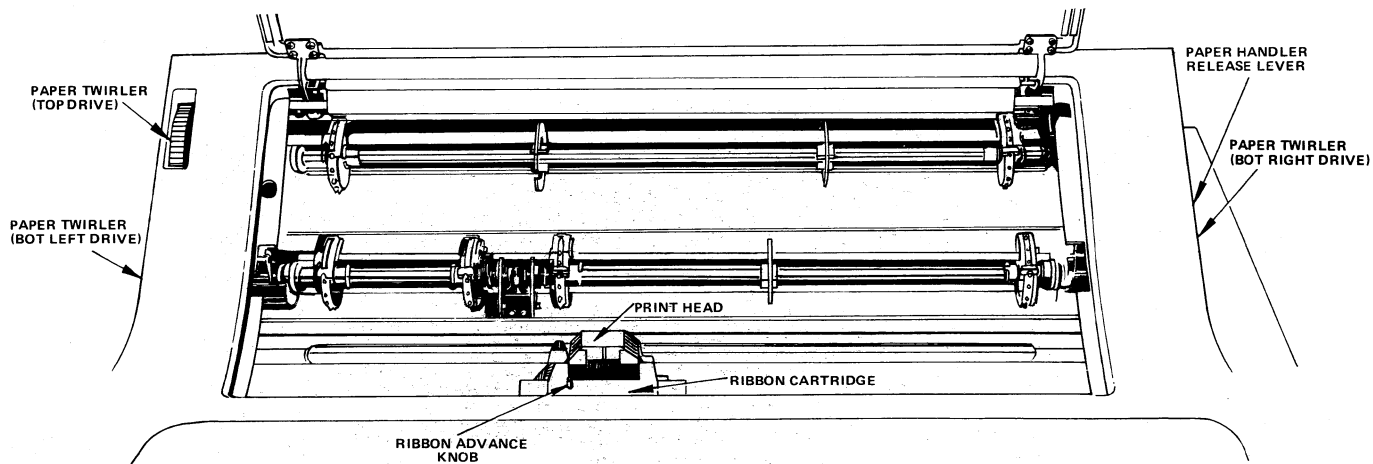
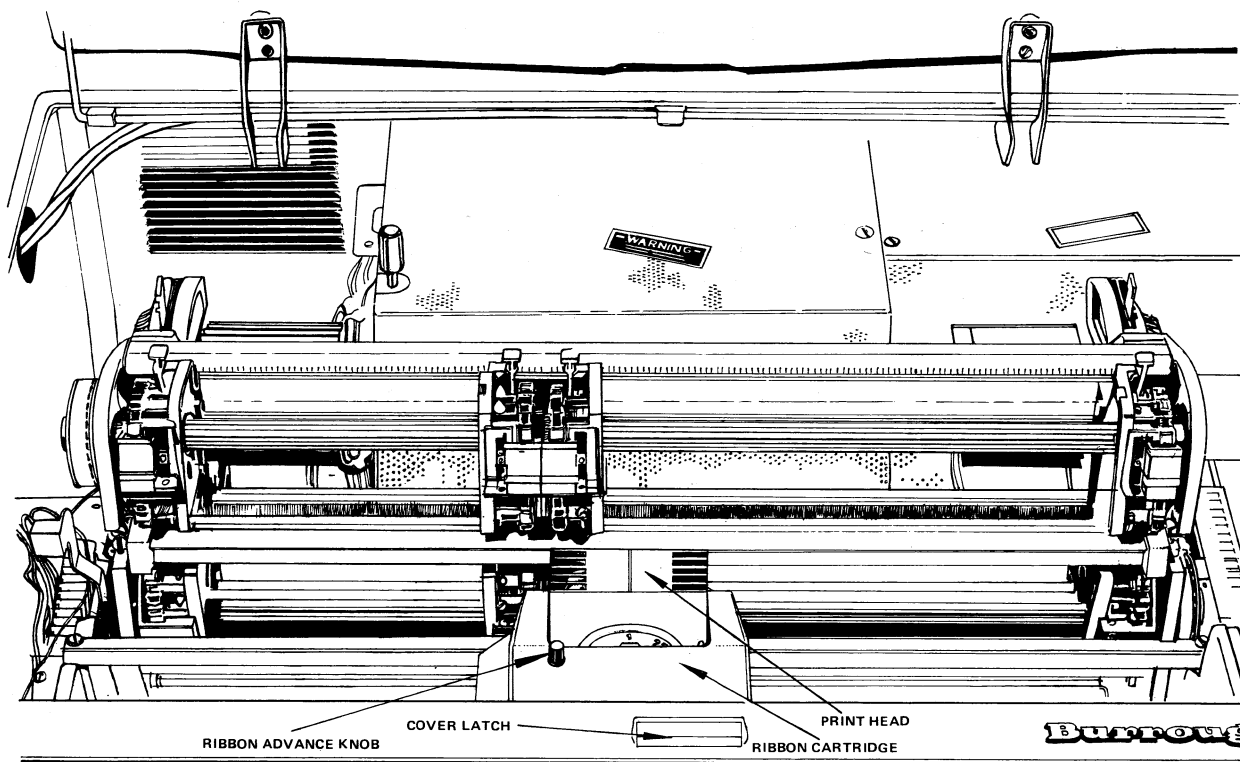

Figure 2-2. 180 cps Printer
Figure 2-3. 120 cps Printer
Refer to figure 2-2 or 2-3.
1. Open the Printer Cover – On a 180 cps Printer (see figure 2-2) raise the Paper Handler Release Lever, and lift the Cover. On a 60/120 cps Printer (see figure 2-3) pull the Cover Latch forward, and lift the Cover. The Printer will not operate while the Cover is open.